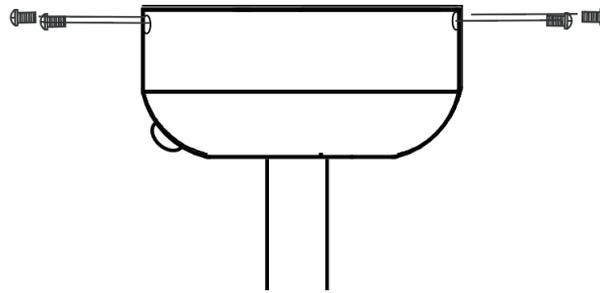

Fig.12
- Cover the mounting bracket with the canopy. Ensure all electrical wiring is tucked inside the canopy and that the wires are not damaged during this step. Secure the canopy to the hanger bracket using the screws provided. (Fig. 12)